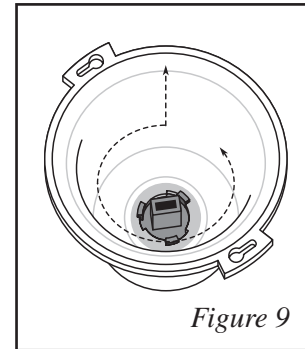

Figure 9
3. Line up the slots on the socket with the notches in the lens. Insert the socket into the lens. Firmly grasp the socket, push and twist until it snaps into place as shown in *Figure 9*.